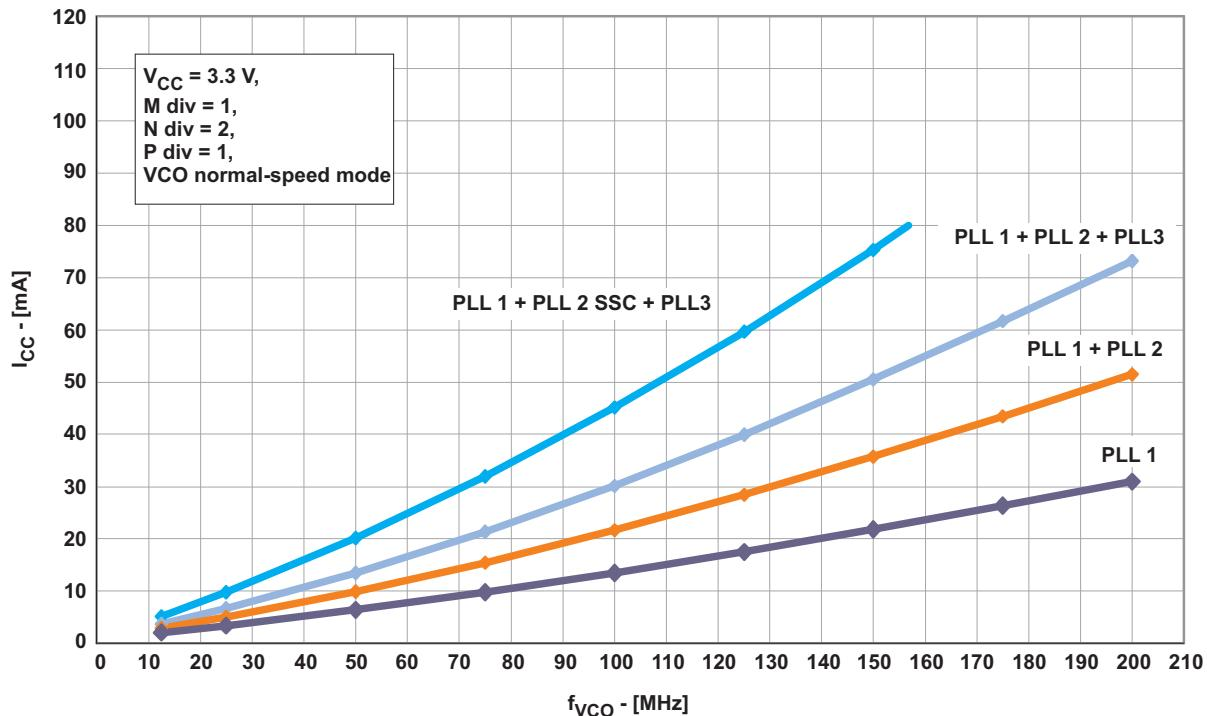
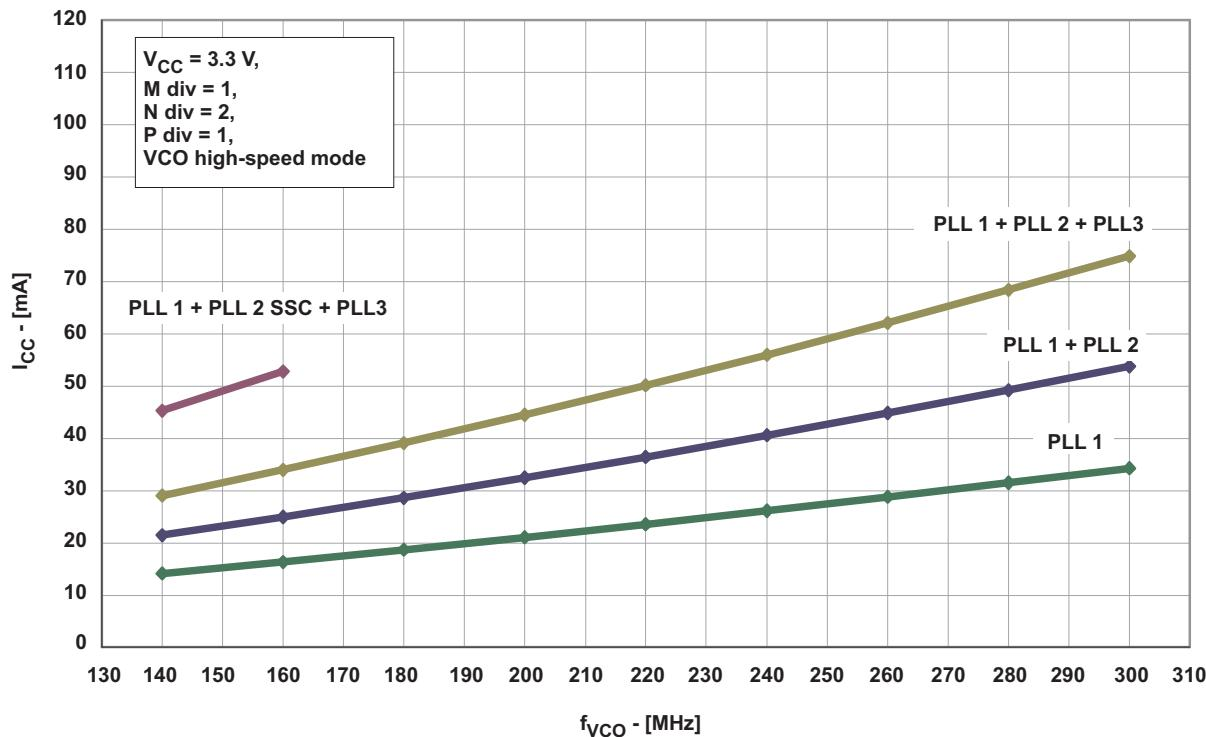
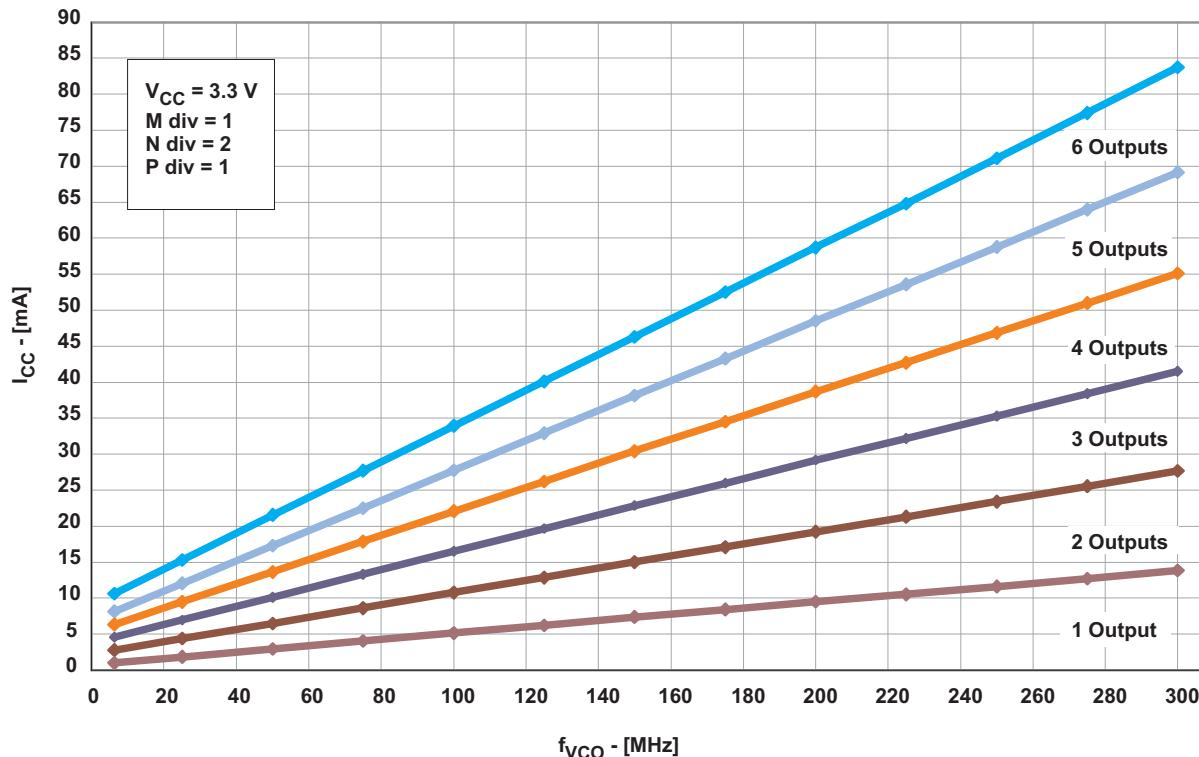
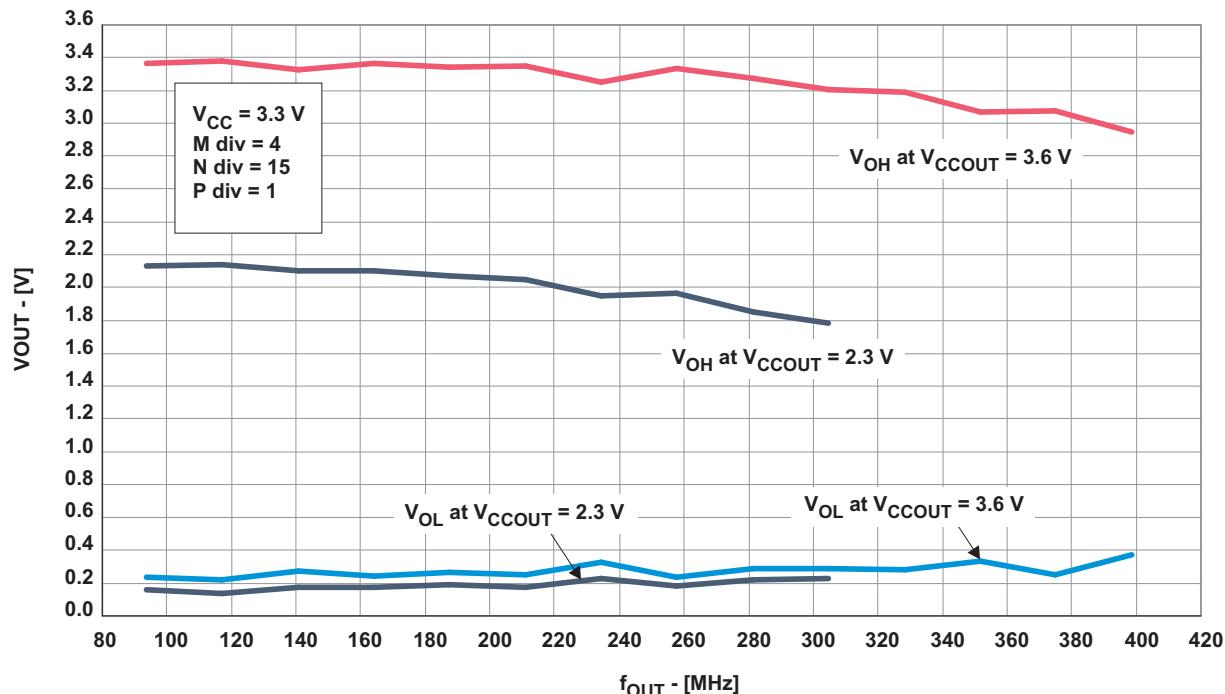

Figure 2. I_{CC} vs Number of PLLs and VCO Frequency (VCO at Normal-Speed Mode, Byte 6 Bit [7:5])
Figure 3. I_{CC} vs Number of PLLs and VCO Frequency (VCO at High-Speed Mode, Byte 6 Bit [7:5])
Figure 4. I_{CCOUT} vs Number of Outputs and VCO Frequency
Figure 5. Output Swing vs Output Frequency
- (1) All typical values are at respective nominal V_{CC}.
- (2) For calculating total supply current, add the current from Figure 2, Figure 3, and Figure 4. Using high-speed mode of the VCO reduces the current consumption. See Figure 3.
- (3) Normal-speed mode or high-speed mode must be selected by the VCO frequency selection bit in Byte 6, Bit [7:5]. The min f_(VCO) can be lower but impacts jitter-performance.
- (4) Do not exceed the maximum power dissipation of the 20-pin TSSOP package (600 mW at no air flow). See Figure 5
- (5) 50000 cycles.
- (6) Jitter depends on configuration. Jitter data is normal t_r/_{t_f}, input frequency = 3.84 MHz, f_(VCO) = 245.76 MHz.